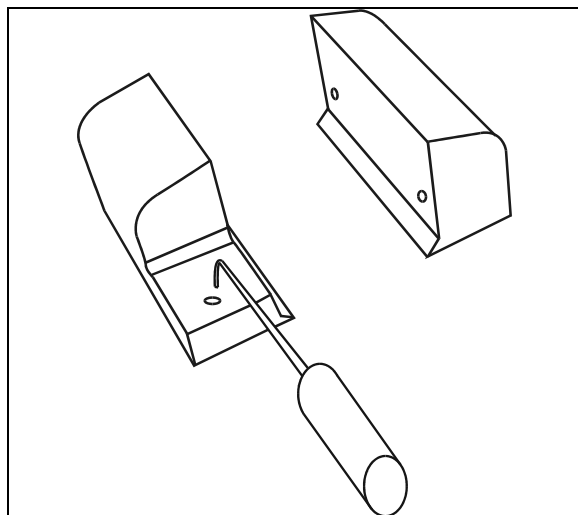

FIGURE 26 : REMOVE THE UPPER ACETAL PLASTIC BLOCKS WITH A PICKING TOOL
3. Remove the 2 upper acetal plastic blocks. They have holes so they can be removed with a picking tool (FIGURE 26) from outside the vehicle. If the acetal plastic blocks are too hard to reach, slightly extend the slide-out, the movement of the slide-out should bring them out.
1. For both sides of the slide-out, remove the 2 upper acetal plastic blocks shown on FIGURE 26 (refer to section 13).